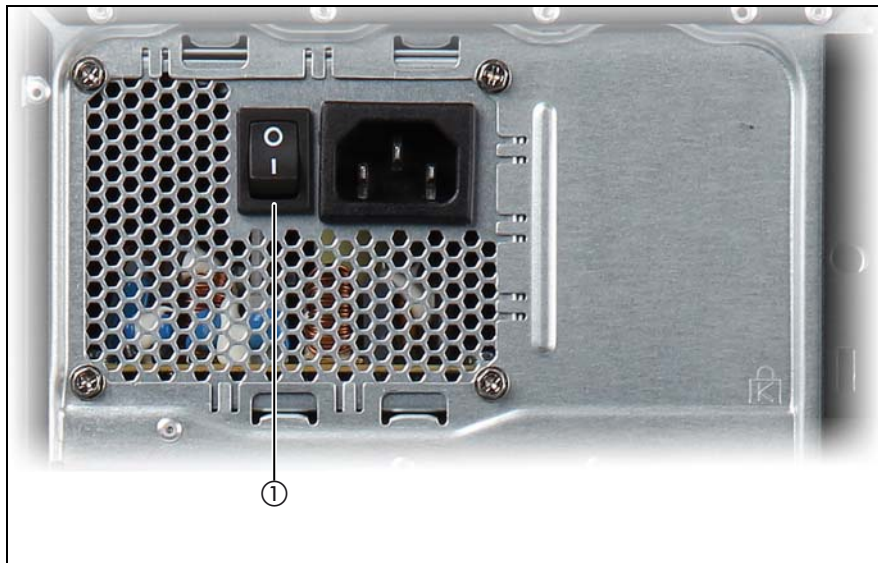

Figure 7: Power switch of the power supply unit
- ▶ Switch the power switch to ON (I), see figure 7 on page 52.